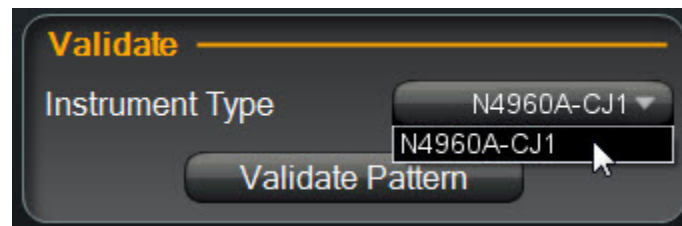

Figure 91. Instrument Type drop down list box
1. Under **Validate**, click on the **Instrument Type** drop down list box and select the instrument. Refer to Figure 91.